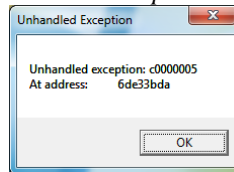

Figure 2: VideoPoint Capture - error when saving compressed video
- 3) **If VideoPoint Capture returns an unhandled exception/error when saving video (as in Figure 2) see “Capture Settings”**